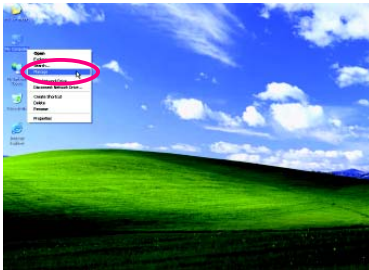
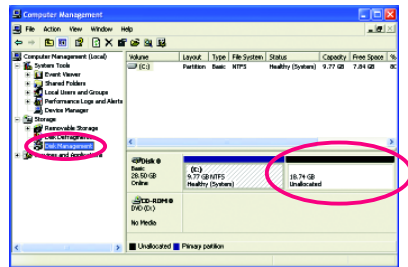

Figure 4
Figure 5
- After the operating system is installed, right-click the **My Computer** icon on your desktop and select **Manage** (Figure 4). Go to **Computer Management** to check disk allocation. Xpress Recovery2 will save the backup file to the unallocated space (black stripe along the top)(Figure 5). Please note that if there is not enough unallocated space, Xpress Recovery2 cannot save the backup file.